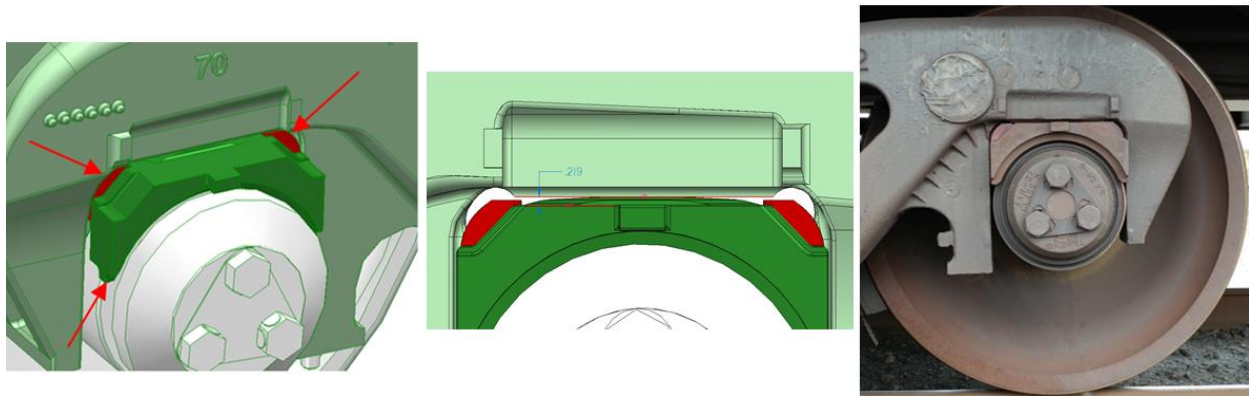

Figure 13: Proper Installation of the Bearing Adapter and Guides
6. Ensure that the bearing adapters are seated properly over the roller bearings and remove the bungee cords or equivalent (Figure 13).
6. All bearing adapters must be properly seated on the roller bearings with both bearing adapter shoulders in the bearing grooves (Figure 13).
7. Two guides must be present with each bearing adapter. The guides must be properly seated in the bearing adapter and around the thrust lugs (Figure 13).
8. The bearing adapter crowns must contact the pedestal roof (Figure 13).